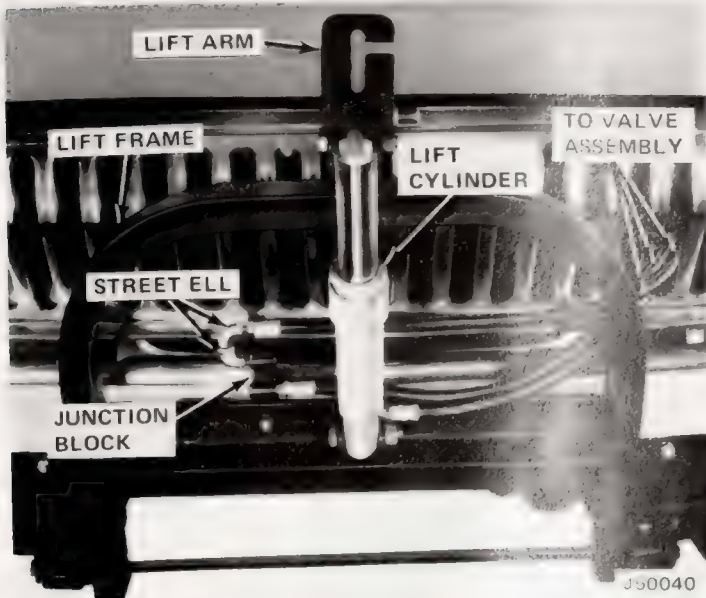
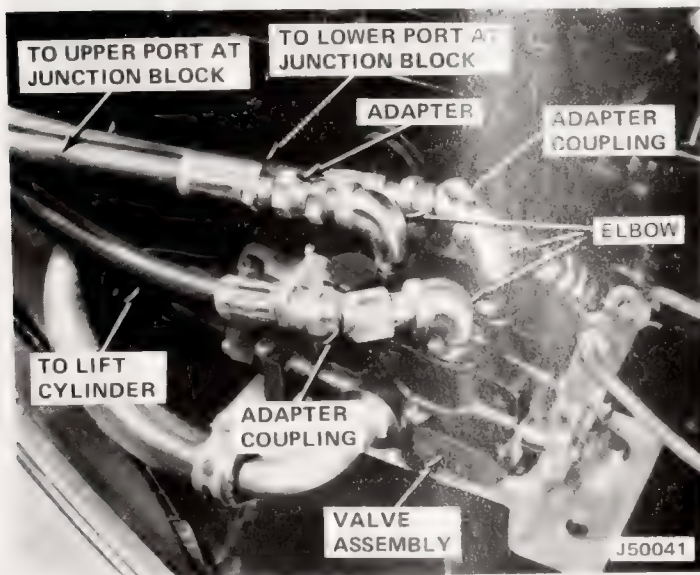
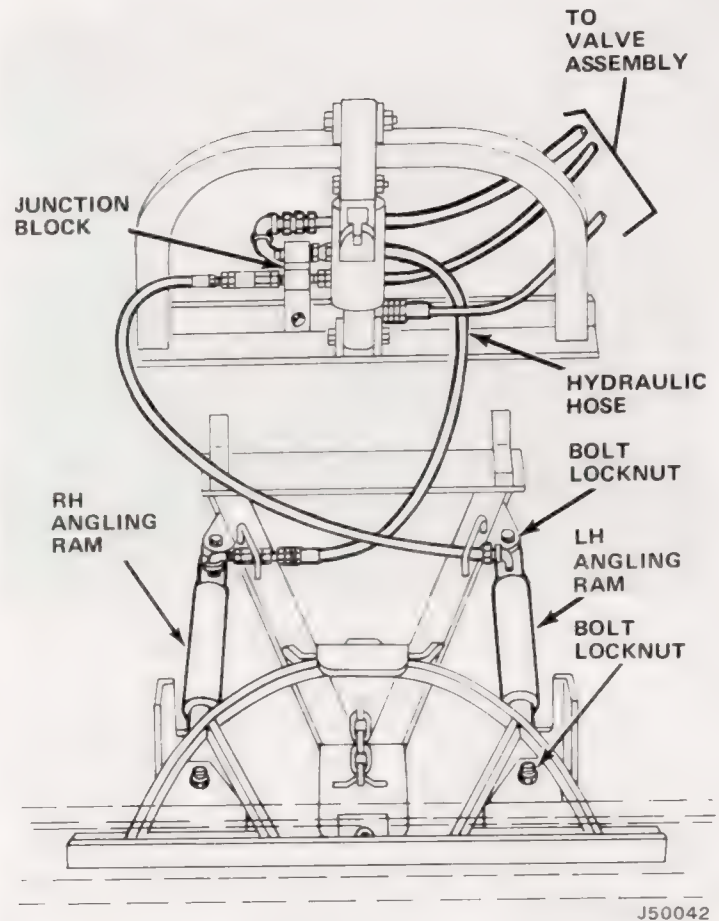

Fig. 1-58 Lift Cylinder and Junction Block installation
Fig. 1-59 Lift Cylinder and Junction Block Hose Installation
Fig. 1-60 Angling Ram and Hose Installation
(13) Install lift cylinder, lift frame, and lift arm, using two bolts and locknut (fig. 1-58).
(14) Position junction block on right side of lift frame angle and drill one 3/8-inch hole. Secure with bolt, lockwasher, and nut.
(15) Install street ells in upper right opening in junction block (fig. 1-58).
(16) Drill holes in front end sheet metal and insert grommets for routing of hoses from junction block and lift cylinder to valve assembly.
(17) Install three elbows, two adapter couplings, and adapter at valve assembly (fig. 1-59).
(18) Route hoses from lift cylinder and junction block through grommets in front end sheet metal to valve assembly and connect.
(19) Install angling rams on A-frame and sector assembly (fig. 1-60).
(20) Install two nipples, one into right angling ram and one into bottom of junction block (fig. 1-60).
(21) Install 90-degree elbows on angling rams.
(22) Install couplers, one to nipple on right angling ram and one to nipple on valve block.
(23) Install hydraulic hoses to angling rams and junction block (fig. 1-60).